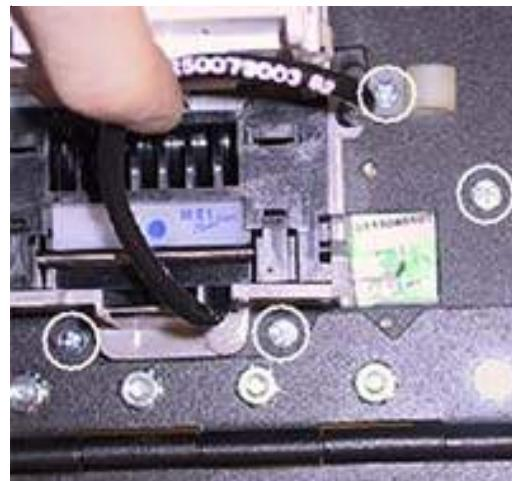

FIGURE 3 - SCREWS FASTENING SMALL BILL ACCEPTOR NOSE TO MOUNTING PLATE
5. Remove the screws securing the bill acceptor nose to the front of the game (4 screws for small-nosed games; 2 for large-nosed ones). See Figure 3 for small-nosed games, Figure 4 for large-nosed games. **NOTE:** To provide more room to access the screw locations, it may be helpful to remove the joystick assembly from the front of the game. To do so, carefully lay the game down in order to access the circular anti-skid pad at its base. Remove the screws securing the joystick assembly beneath the anti-skid circle (2 screws for small-nosed games; 3 for large-nosed ones) and return the game to its upright position. Save the screws for reinstallation.